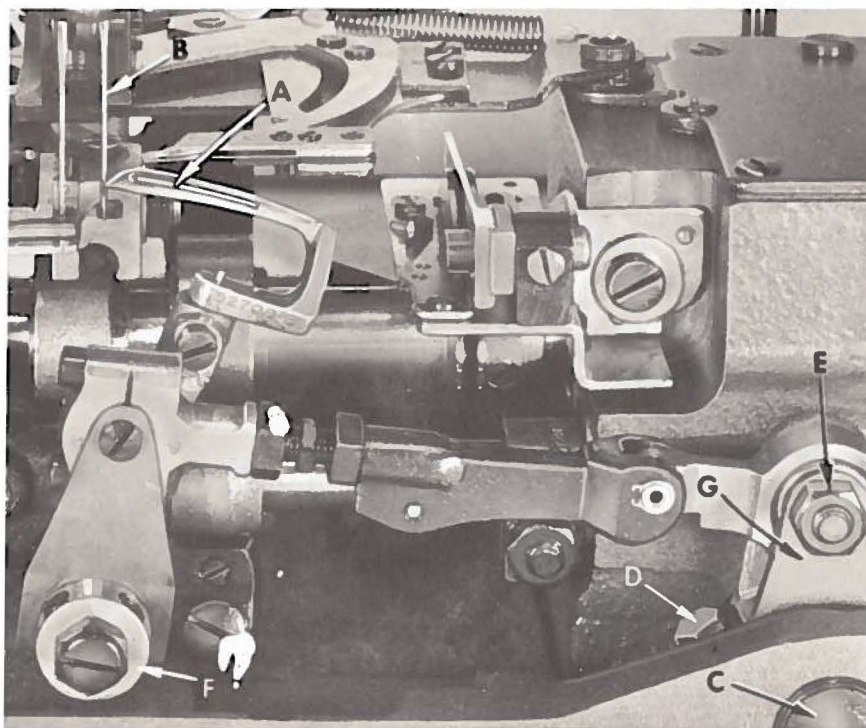
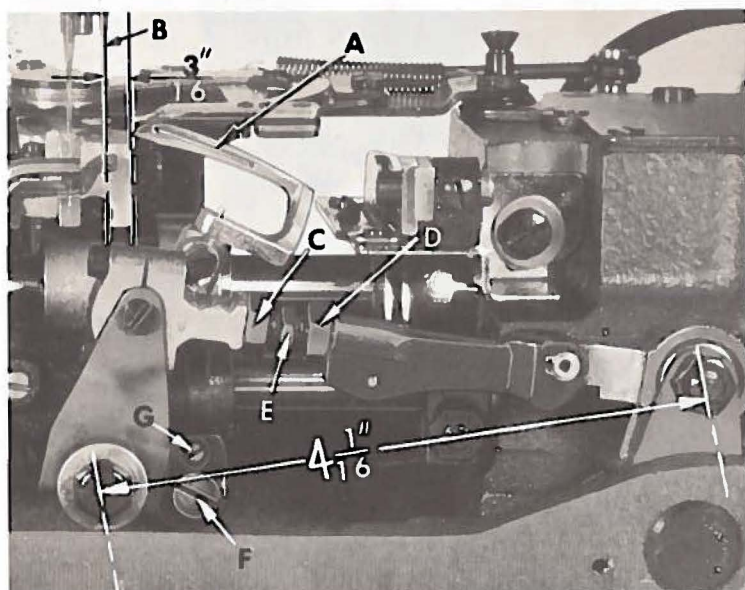

Fig. 5
Fig. 6
Insert the looper in the looper rocker and turn hand-wheel in operating direction until the point of the looper (A, Fig. 5), moving to the left is even with the left side of right needle (B). Note the height of the eye of the needle with respect to the looper point, then turn handwheel in the reverse direction until the looper point again moves to the left and is even with the left side of the right needle. If motions synchronize, the height of the eye of the needle with respect to the looper point will be the same. A variation of .005 inch is allowable. If the distance from the eye of the needle to the point of the looper is greatest when the pulley is turned in the operating direction, move the looper drive shaft synchronizing stud (C) to the rear. Moving it in the opposite direction acts the reverse.
Moving of the looper drive lever shaft synchronizing stud is accomplished as follows: Loosen the clamp screw (D, Fig. 5) of the looper drive lever. To move stud to rear (away from operator), a light tap with a small hammer, directly on the stud, is all that is required. To move stud forward (toward operator), remove the cloth plate, throat plate support, oil reservoir top cover and oil reservoir back cover, then, a light tap on the looper drive lever rocker shaft, toward the operator, is all that is required. Then, using the looper drive lever to take up the end play between the looper drive lever rocker shaft and its synchronizing stud, tighten the looper drive lever on the shaft, using screw (D, Fig. 5).
With the looper at the extreme right end of its travel, check the location of the centerline of the right looper connecting rod bearing, using gauge No. 21227 CX. Remove nut (E, Fig. 5) and place hole in gauge over threaded stud. The left end of the gauge should locate against the right side of the looper rocker cone (F). If adjustment is necessary, loosen the clamp screw (D) and reposition the looper drive lever (G) as required. Tighten clamp screw. If gauge is not available, setting can be checked with a scale. The distance between the centerline of the looper rocker cone and the centerline of the looper lever stud should be $4 \frac{1}{16}$ inches (Fig. 6).
Insert a new needle in the right needle seat, type and size as specified. If the looper gauge is $\frac{3}{16}$ inch, for example, set the looper (A, Fig. 6) so the distance from the center of the right needle (B) to the point of the looper is $\frac{3}{16}$ inch, when the looper is at its farthest position to the right. Looper gauge No. 21225- $\frac{3}{16}$ can be used advantageously in making this adjustment. Refer to chart below for needle type, looper gauge setting and looper gauge number for the various styles of machines. If adjustment is required, loosen nut (C) (it has a left hand thread) and nut (D) on connecting rod (E), turn the connecting rod forward or backward to obtain the $\frac{3}{16}$ inch dimension. Retighten both nuts, first nut (D), then nut (C). Make sure the left ball joint is in vertical position and does not bind after adjustment.
If adjustment is necessary, loosen lock screw (F, Fig. 6) and turn stop screw (G) as required. Turning stop screw clockwise sets the looper to the rear and turning it counterclockwise acts the reverse. Holding looper to the front while making this adjustment may prove helpful. Tighten lock screw when setting is obtained and recheck the adjustment. Now insert another needle in the left needle seat.